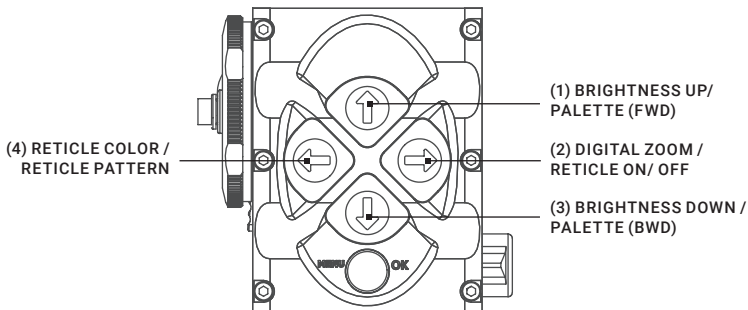

FIGURE 2-16. SETTING BUTTONS
6. Using the buttons on the control panel (Figure 2-16), configure the Asp to adapt it to your situation.